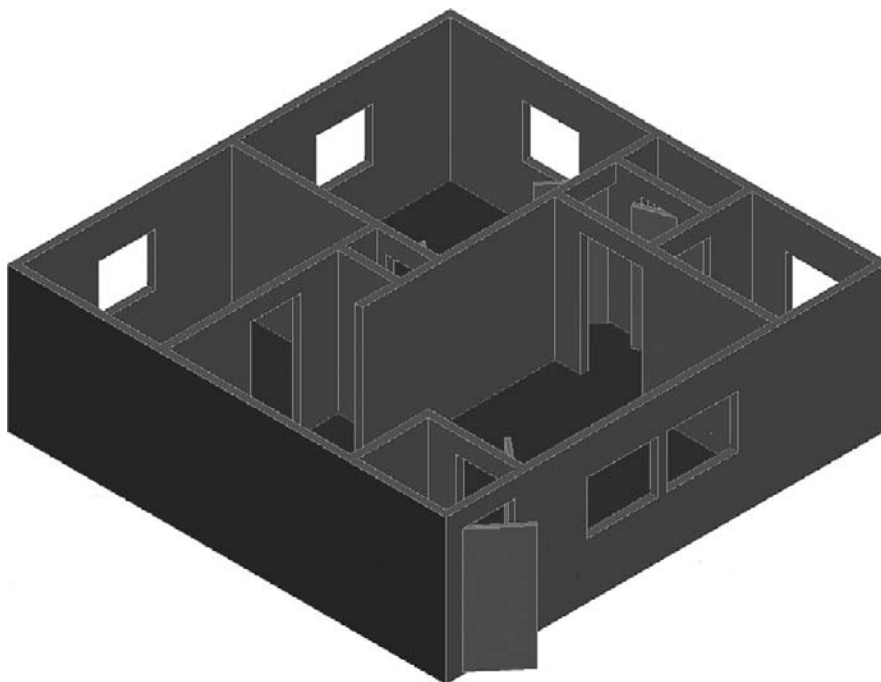

FIGURE 30.2
Let us give these various lights a try. Bring up the same 3D apartment model used in the previous chapter and switch to the Realistic Visual Style (RVS), as seen in Figure 30.2.
- **filterColor**. This is simply the color of the light emitted with no regard to temperature or type of lamp, as seen with Photometry settings. You can enter RGB values, Index colors, or use any of the other color choices AutoCAD provides. Figure 30.2 features Index color 30.